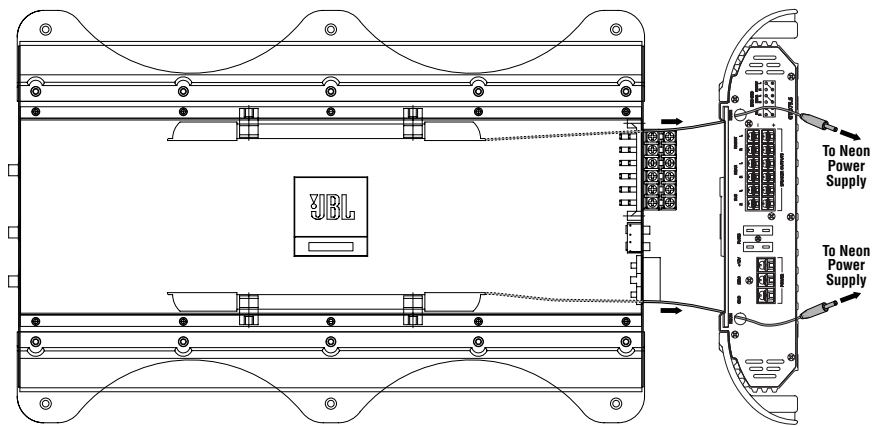

Figure 13. Installing neon tubes in a JBL GTO amplifier.
4. Locate the enclosed hardware bag and remove the four clips. Each clip has a square end and a larger round end. Using a round end, press two clips onto each neon tube (e.g., Street Glow AN9 or equivalent), as shown in **Figure 13**.
5. For each tube, align both clips so the square ends slide onto an exposed extrusion edge, as shown in **Figure 13**. Do not cover any screw holes. When installed correctly, each neon tube will sit under an extrusion and not be visible when viewed from directly above.
6. Route each neon tube's power cable through its respective NEON hole on the end panel (see **Figure 13**).